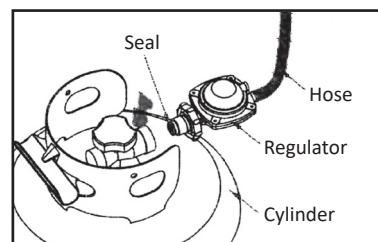

Fig. 1
- Check that the regulator seal is correctly fitted and able to fulfill its function. (Fig. 1)
- For hose and regulator connection as well as regulator and hose connection, refer to figure 1.